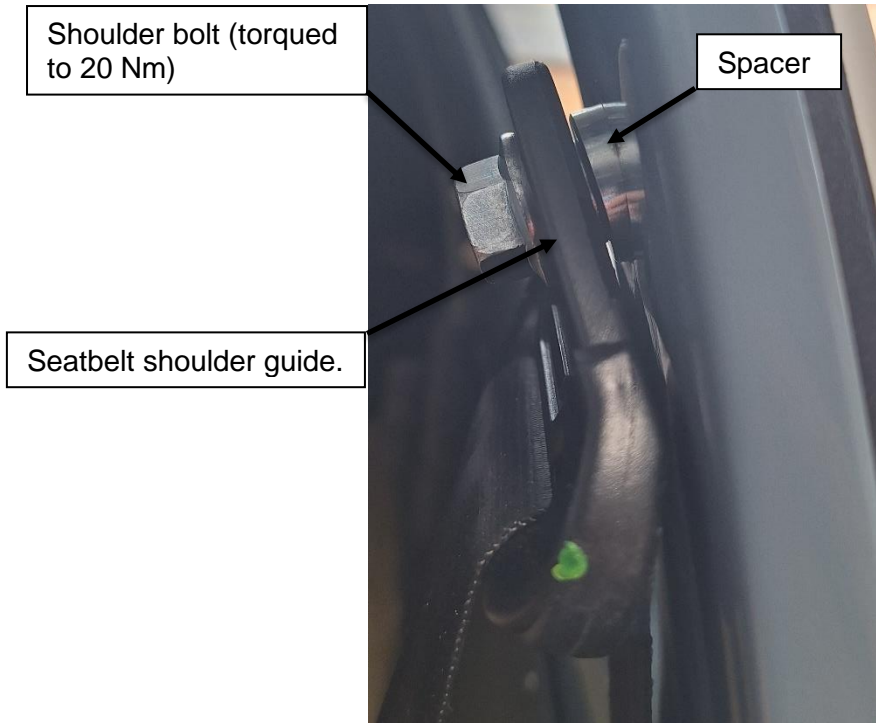

Figure 11: Seatbelt shoulder guide installation
Step 7: Once the cutout has been widened, install the bolt, spacer and shoulder anchor guide of the seatbelt as seen in Figure 11. Ensure that the spacer fits through the cutout and is able to locate on the mounting plate that is bonded into the canopy. Loctite 243, or an equivalent, should be used on the bolt thread to ensure it does not unscrew on its own. Torque the bolt to 20 Nm.